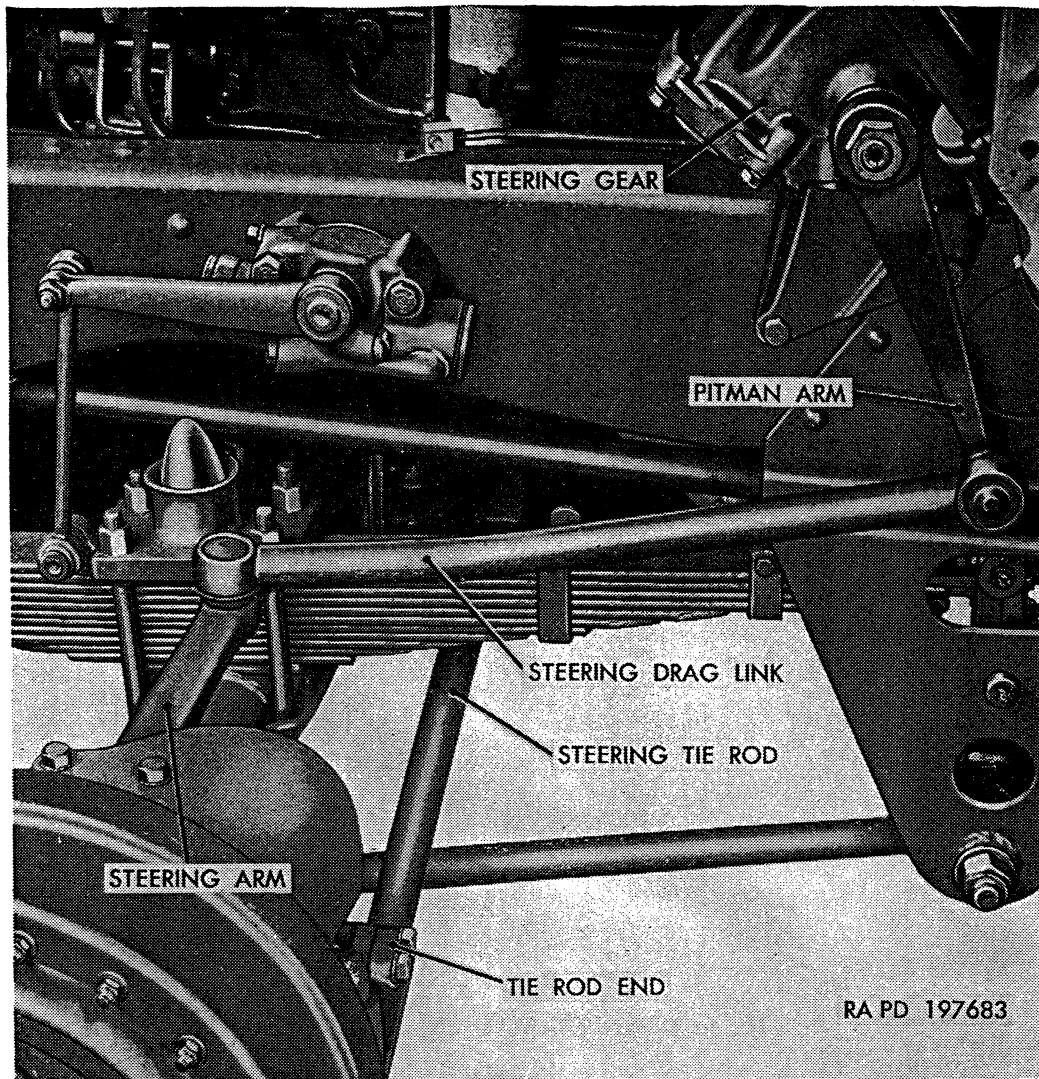

Figure 275. Steering linkage installed.
*a. Description.* The steering system consists of a recirculating-ball type steering gear assembly, mounted on frame left side member, interconnected from pitman arm to front axle left steering arm with a steering drag link (fig. 275). Movement of the steering wheel is transmitted through steering gear mechanism and drag link to the axle steering arm. Both wheels are turned by means of a tie rod interconnecting the front axle right and left steering knuckles. Components of the tie rod and front axle are described in paragraphs 215-222.
(fig. 275)